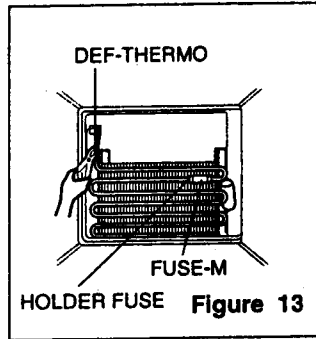

Figure 13
2. Separate the connector connected with the Def Control Assy and replace the Def Control Assy after cutting the Tie Wrap. (Figure 13)